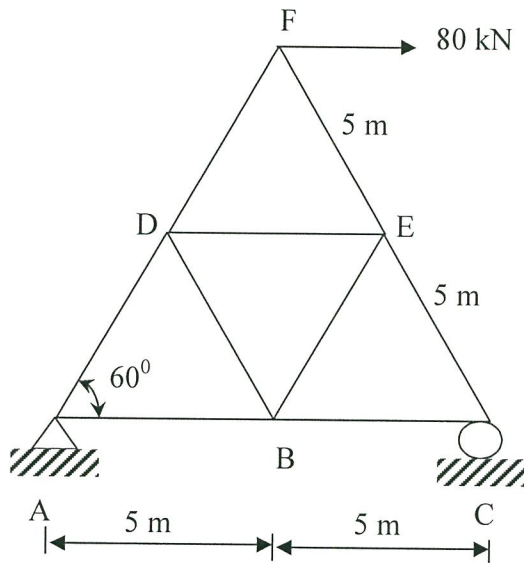

Figure Q5
- Q5** (a) List **two (2)** assumptions of analysis to determine the member's force of the truss. (2 marks)
- (c) In **FIGURE Q5**, a statically determinate plane truss is pinned at A and supported by roller at C.